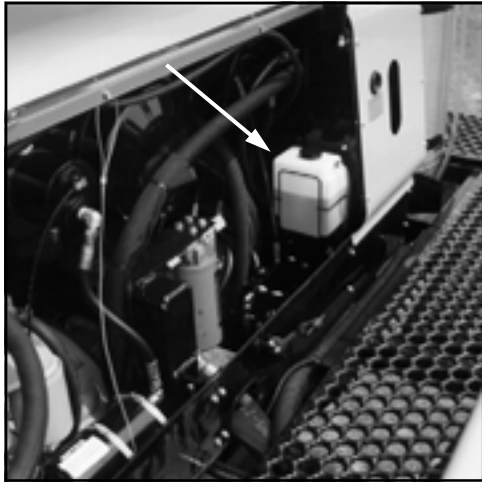

FIG 8.8
**COOLANT RESERVOIR** - The coolant reservoir is located under the left-hand hood toward the rear of the machine (fig. 8.8). Check its level everyday while the engine is cold. Maintain the coolant reservoir level within the normal cold range marks.